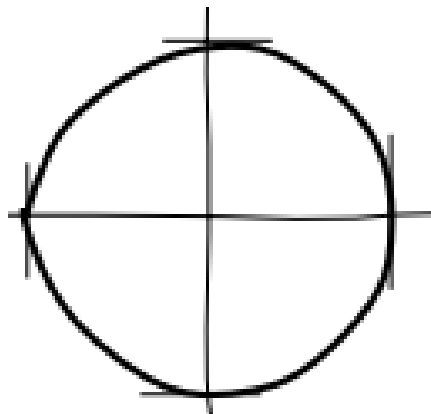

Fig. 3.32: Sketching a circle
- Connect the radius marks with arcs to complete the circle as shown in Fig. 3.32.